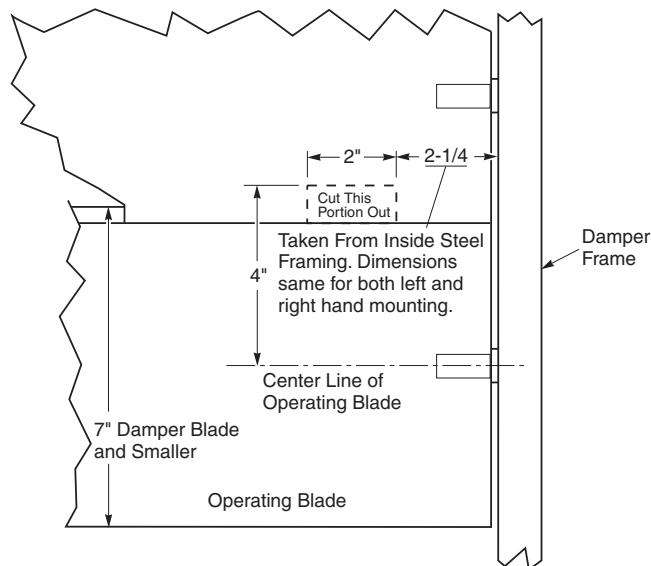
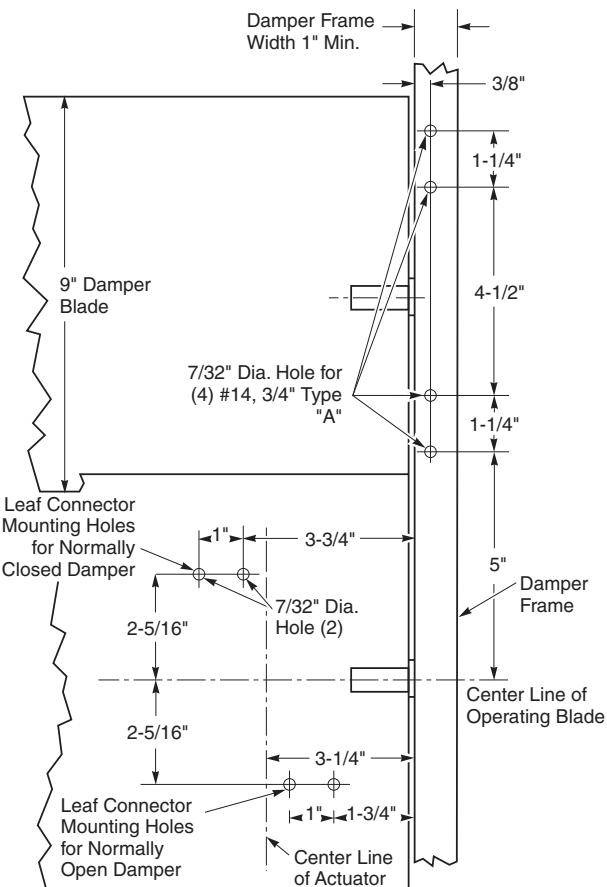
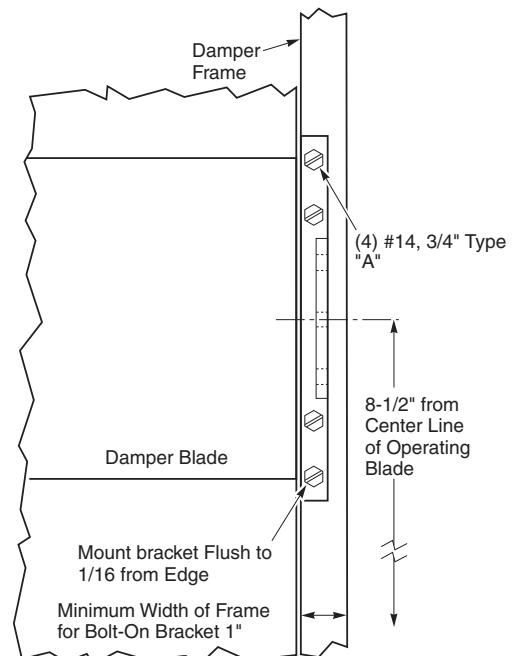

Figure-1 Bracket Mounting for Dampers with Blades 7" or Smaller.
Figure-2 Mounting Dimensions for Bolt-on Bracket, and Leaf Connector.
Figure-3 Typical Bolt-on Bracket Mounting.
Refer to Figure-16 for mounting hole locations and mounted actuator dimensions. Refer to Figure-1, Figure-2, and Figure-3 for preparing the damper for a typical bolt on bracket mounting (AM-532).
1. Drill necessary holes in damper for bolt-on bracket and leaf connector (see Figure-2). Dampers with blades 7 in. (180 mm) or smaller require notched cut in blade next to operating blade (see Figure-1).
2. Attach bolt-on (using four #14, 3/4 in. hexhead slotted screws) bracket to damper frame (see Figure-3).